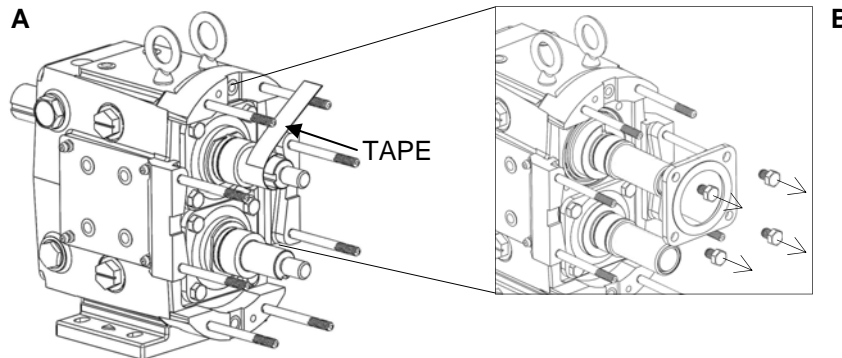

Figure 32: Tape Shafts and Remove Bearing Retainers
3) To prevent damage to the shafts, wrap the keyway and rotor nut threads with tape (Figure 32, A). Any damage to the shaft or threads may require the shaft be replaced. Remove the cap screws holding the bearing retainers in place and slide both bearing retainers off the shaft (Figure 32, B). If they are stuck, use a flat head screw driver as a wedge to pry them from the gear case or leave them in place and when the shafts are removed they will press off with the shafts. Using a straight edge, remove the liquid gasket used to seal bearing retainer to the gear case.